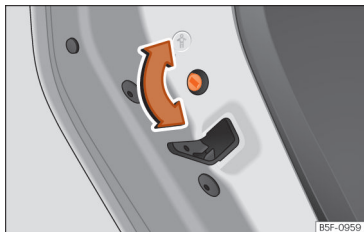

Fig. 77 Left door child lock.
- With the door open, turn the slot with the vehicle key clockwise for the left doors >>> Fig. 77 and anticlockwise for the right doors.
- With the door open, turn the slot with the vehicle key anticlockwise for the left doors >>> Fig. 77 and clockwise for the right doors.